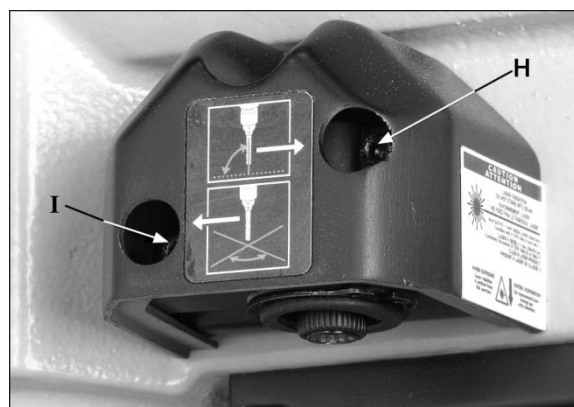

Figure 23
4. Use the socket head screw (H, Figure 23) located toward front of laser assembly, to adjust verticality of laser line. Turn screw as needed (2.5mm hex wrench), and move board side-to-side as needed, until laser light (E) aligns with board marking (B).
7. Use the socket head screw (I, Figure 23) located toward *back* of laser assembly, to adjust the cross hair. Turn screw as needed until laser line (M) crosses perforation (L).